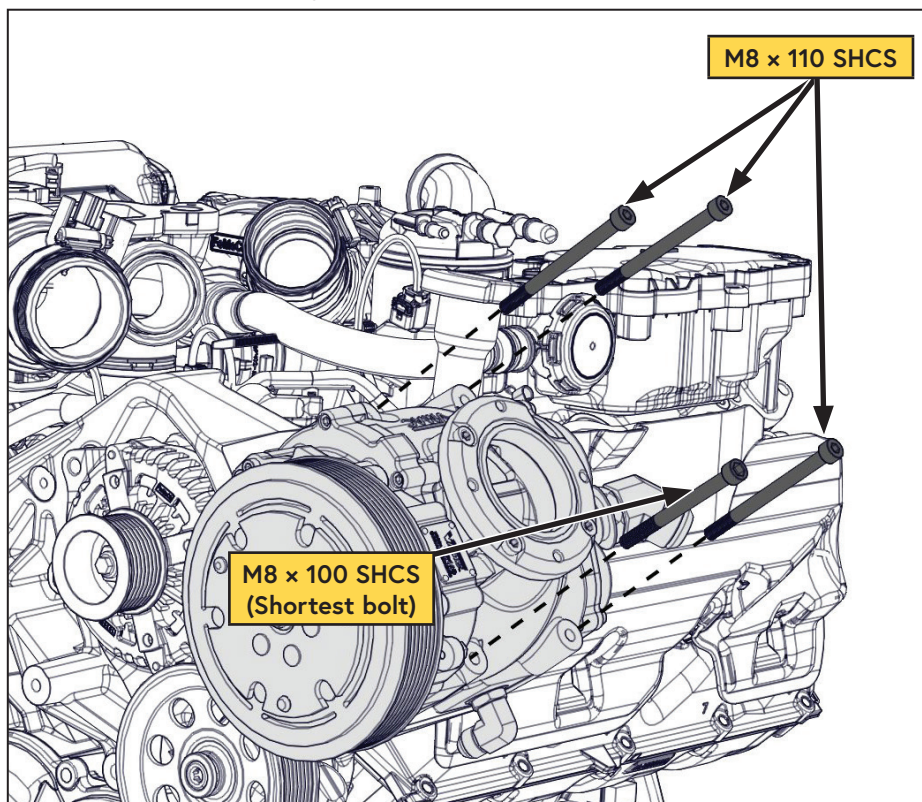

Figure 54 — Install Compressor
- ☐ Position the compressor on the mounting bracket and secure with the (x4) supplied bolts (note the location of the shorter bolt) and torque the compressor bolts to specification (Figure 54).